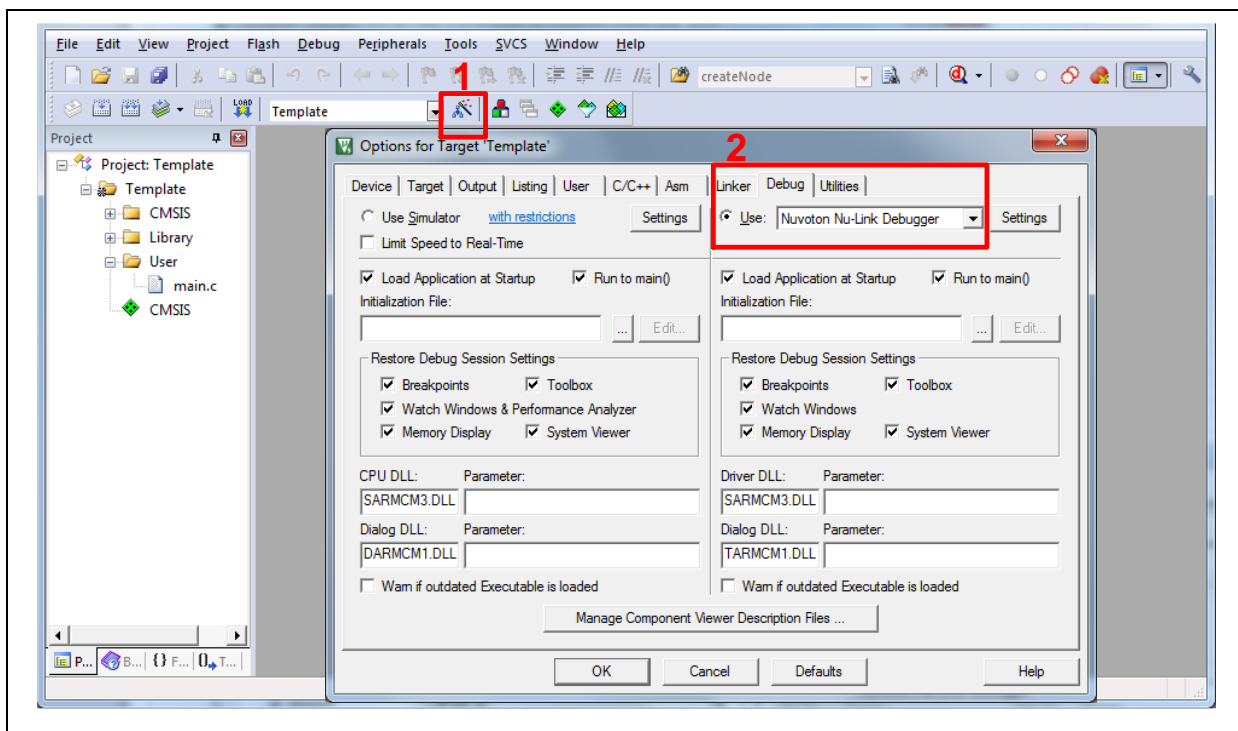
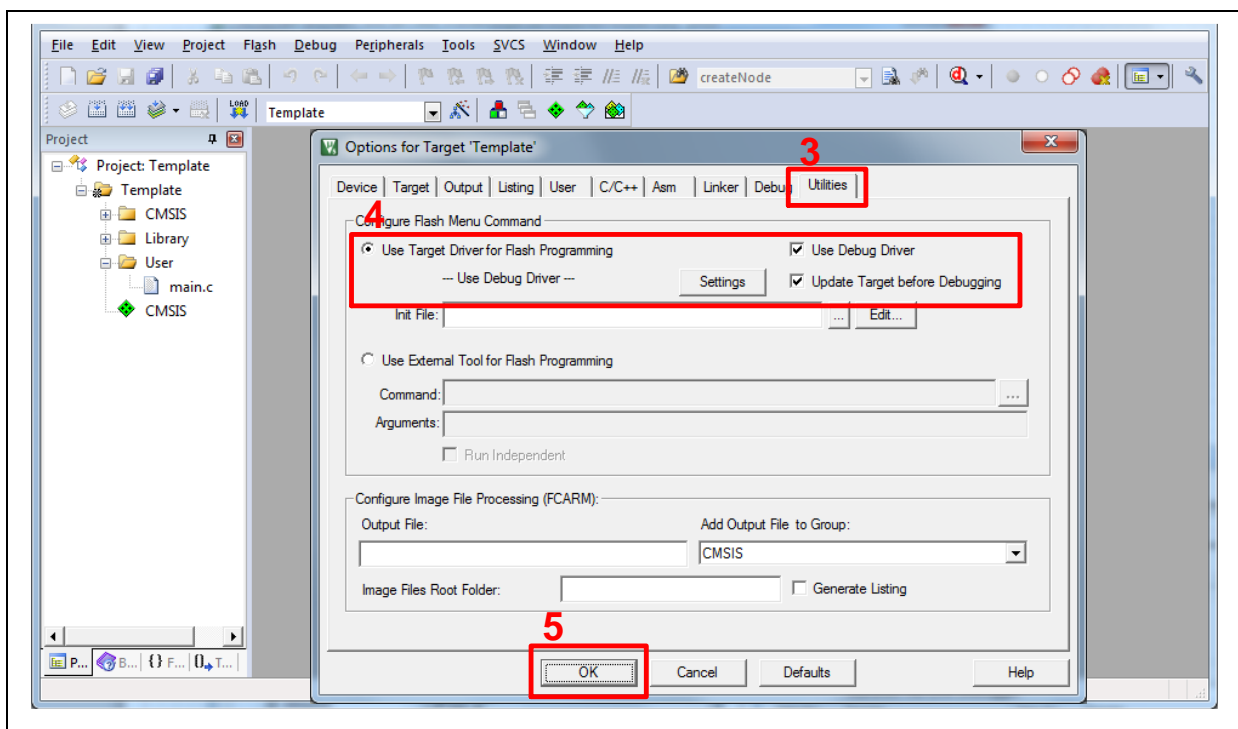

Figure 3-10 Debugger Setting in Options Window
Figure 3-11 Programming Setting in Options Window
2. Make sure the debugger is “Nuvoton Nu-Link Debugger” as shown in Figure 3-10 and Figure 3-11.
**Note:** If the dropdown menu in Figure 3-10 does not contain “Nuvoton Nu-Link Debugger” item, please rework section 3.2.